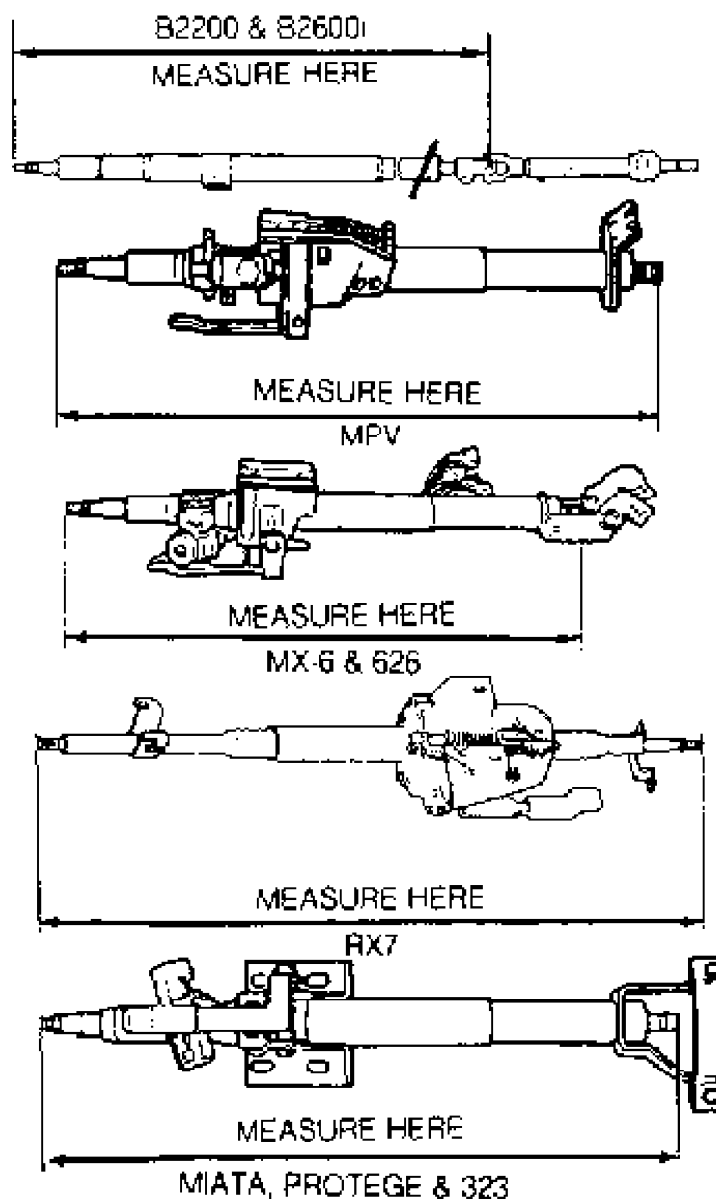

Fig. 9: Measuring Steering Shaft Dimensions (Except 929)
Check all components for damage or wear. Check steering shaft for bends, damage or sheared plastic pins. Check bearings for excessive play. Replace parts as necessary. Measure length of steering shaft. See Fig. 9.
(1) - See Fig. 9 for measuring points.